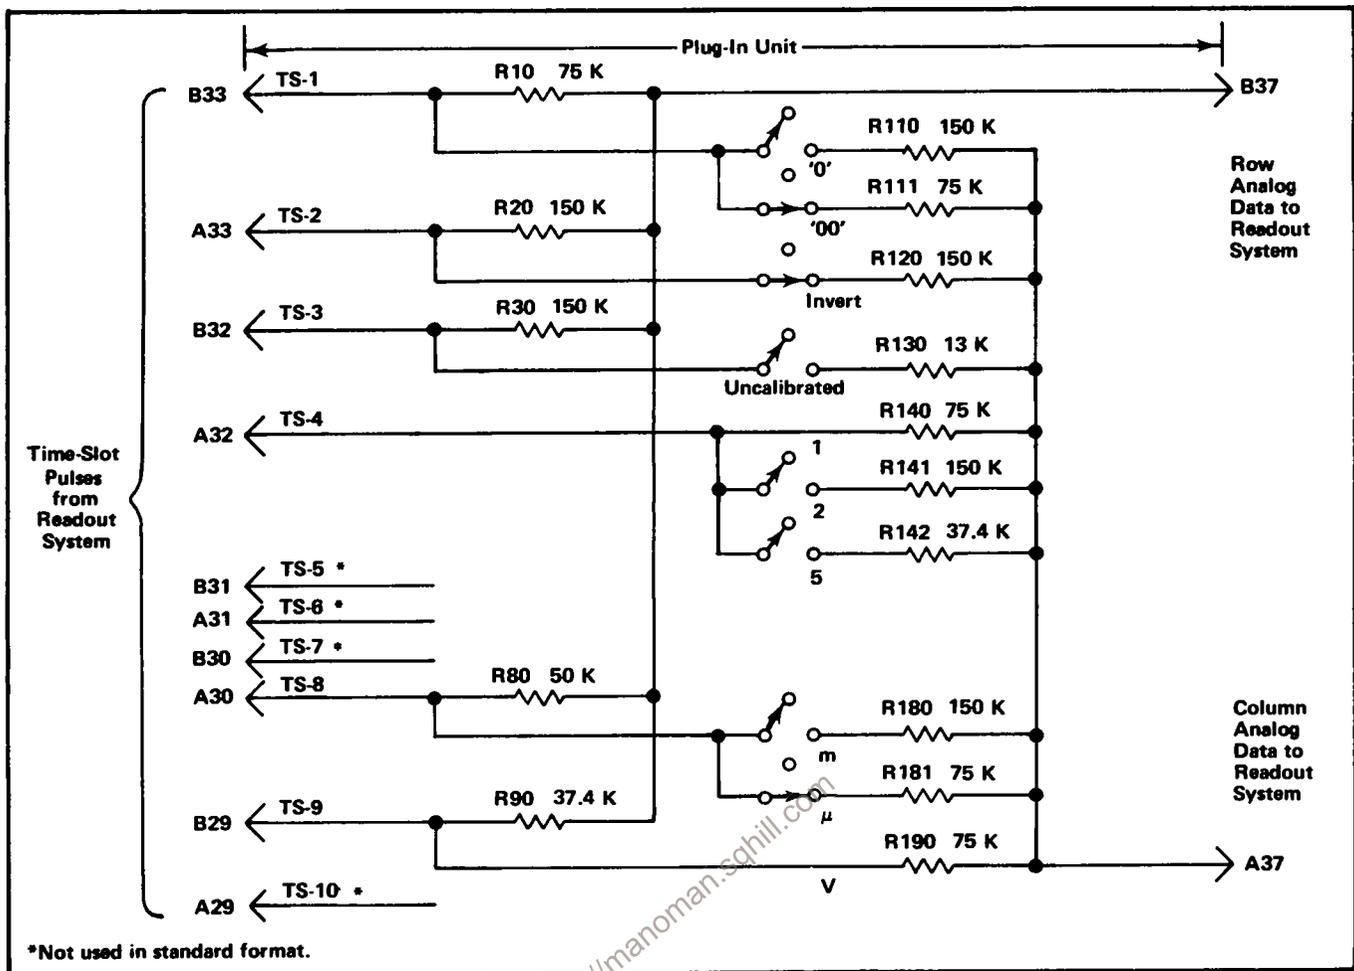

Fig. 4-32. Typical encoding scheme for voltage-sensing amplifier plug-in unit. Coding shown for deflection factor of 100 microvolts.
Data is conveyed from the plug-in units to the Readout System in the form of an analog code having up to 11 current levels (from zero to one milliampere in 100 microampere steps). The characters which can be selected by the encoded data are shown on the Character Selection Matrix (see Fig. 4-25). Each character requires two currents to define it; these currents are identified as the column current and the row current which correspond to the column and row of the matrix. The column and row data is encoded by resistive programming in the plug-in units. Fig. 4-32 shows a typical encoding scheme for a voltage-sensing amplifier plug-in unit. Notice that the 10 time-slot (TS) pulses produced by the Time-Slot Counter stage are connected to the plug-in unit. However, time-slots 5, 6, 7, and 10 are not used by the plug-in unit to encode data when using the Standard Readout Format (see Table 4-2 for Standard Readout Format). The amplitude of the time-slot pulses is exactly  $-15$  volts as determined by the Timer stage. Therefore, the resultant output current from the plug-in units can be accurately controlled by the programming resistors in the plug-in units.
For example, in Fig. 4-32, resistors R10 through R90 control the row analog data which is connected back to the Readout System. These resistors are of fixed value and define the format in which the information will be presented by the Readout System. Fig. 4-33A shows an idealized output current waveform of row analog data which results from the 10 time-slot pulses. Each of the steps of current shown in these waveforms corresponds to 100 microamperes of current. The row numbers on the left-hand side of the waveform correspond to the rows in the Character Selection Matrix shown in Fig. 4-35. The row analog data is connected back to the Readout System via terminal B37 of the plug-in interface.
The Column analog data is defined by resistors R110 through R190. The program resistors are connected to the time-slot lines by switch closures to encode the desired data. The data as encoded by the circuit shown in Fig. 4-32 indicates a 100 microvolt sensitivity with the display inverted and calibrated vertical deflection factors. This results in the idealized output current waveforms shown in Fig. 4-33B at the column analog data output, terminal A37 of the plug-in interface. Resistor R111, connected between time-slot 1 and the column analog data output, encodes two units of current during time-slot 1. Referring to the
connectors of vertical plug-in units. A special coding ring around the input connector of the plug-in unit senses the attenuation ratio of the probe (with readout-coded probes only). The probe contains a resistor which results in additional column current. For example, if a 10X attenuator probe is connected to a plug-in with the coding for 100 microvolts as shown in Fig. 4-32, an additional unit of current is added to the column analog data during time-slot 1. Since two units of current were encoded by R111 (see Fig. 4-32), this additional current results in a total of three units of column analog current during this time-slot. Referring to the Character Selection Matrix, three units of column current along with the two units of row current encoded by R10 indicates that the prefix should be reduced. Since this instruction occurs in the same time-slot which previously indicated that two zeros should be added to the display and only one instruction can be encoded during a time-slot, the zeros do not appear in the display. The CRT readout will now be changed to 1 mV (readout) program produced by plug-in same as for previous example.